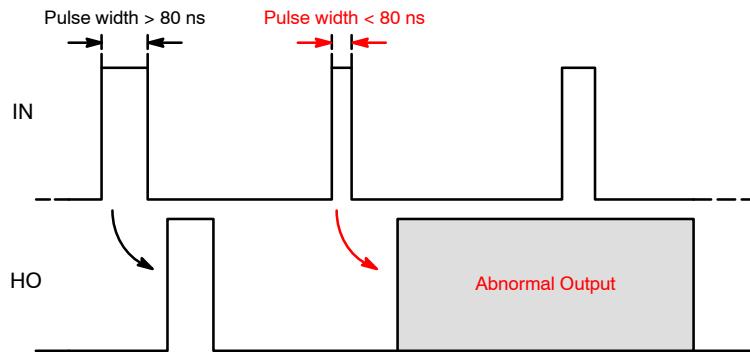

Figure 24. Output Waveform with Short Turn On Input Pulse Width
7. Input pulses shorter than the minimum recommendation can cause abnormal output. Short input pulses can be turn on pulses (i.e., rising edge to the adjacent falling edge), turn off pulses (i.e., falling edge to the adjacent rising edge) but also parasitic pulses induced by noise. Refer to Figure 24 and Figure 25. Value guaranteed by design.